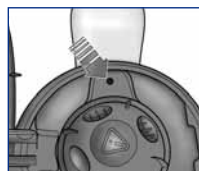
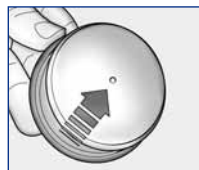

Fig. 2
Fig. 3
- Open the lid (16) and unscrew the boiler tank safety cap (15) anti-clockwise.
- Fill the boiler tank completely with water, using the relevant measure (14). The hole near the safety cap (Fig. 2) allows any excess water poured in with the measure to fall into the drip tray (5).
- Dose the ground coffee in the Thermocream® filter (12) using the relevant measure (9): one dose for one cup of coffee, two doses for two cups.
The Thermocream® filter (12) has a single hole in its lower part to guarantee that coffee is dispensed at high pressure (Fig. 3) which means that the result is a rich, thick cream.